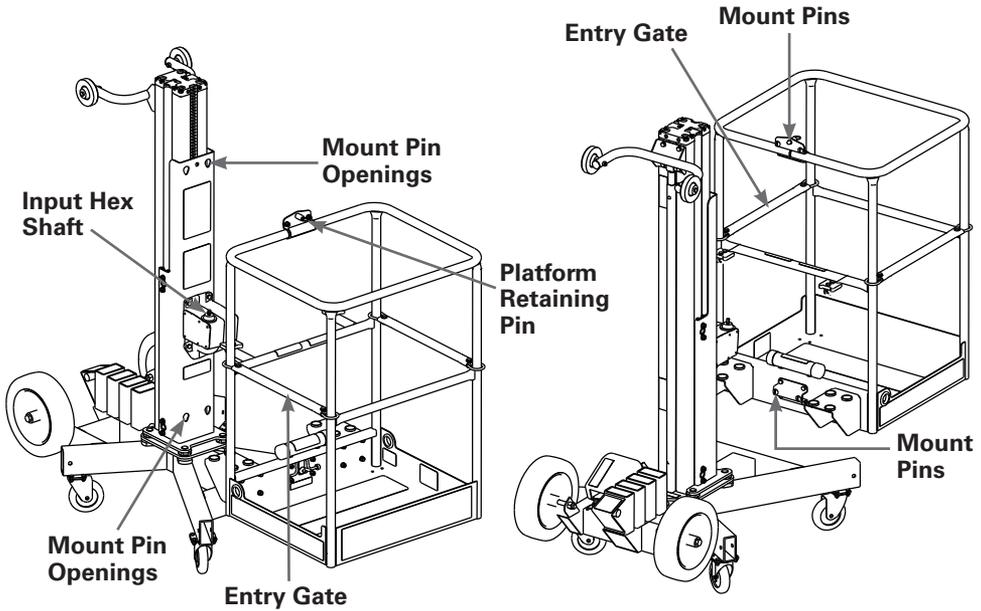

Figure 2-7 - Platform Mounting and Retaining Pins
10. **Platform and Entry Gate** - Check to be sure that the mounting pins are not loose; platform railing is undamaged; platform retaining pin is functioning properly; self closing slide gates are functioning properly; no cracks or visible corrosion present. (See Fig. 2.7)
1. **Drive Shaft Brake** - Check to be sure the input hex shaft plunges properly and returns to its properly seated position. The input hex shaft should be firmly seated in its return position and resist turning freely in either direction. (See Figure 2-7)